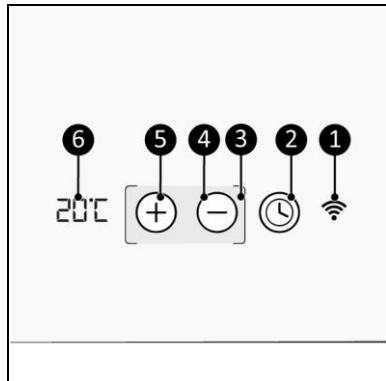

Figure 5
The LED-screen will extinguish automatically after  $\pm 15$  seconds, the square brackets remain visible. Touch the device between the square brackets (Figure 5, pos. 3) to light it up again.